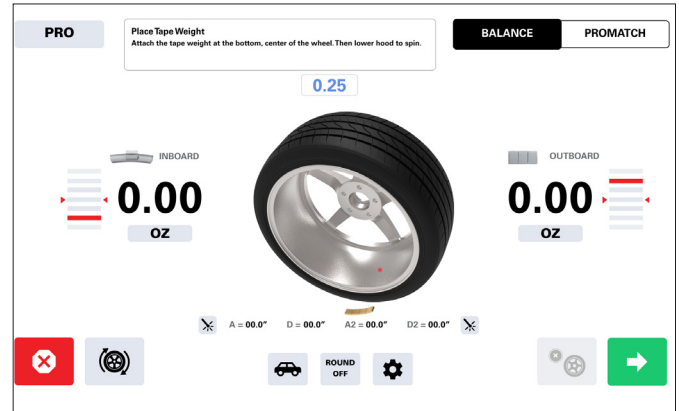

Figure 36 - ProBalance Weight Placement Direction
2. The balancer stops and automatically positions the wheel at the correction location. Now attach the specified corrective weight amount (Figure 36) at the 5 o'clock position in the center of the rim channel (as displayed in graphic on screen